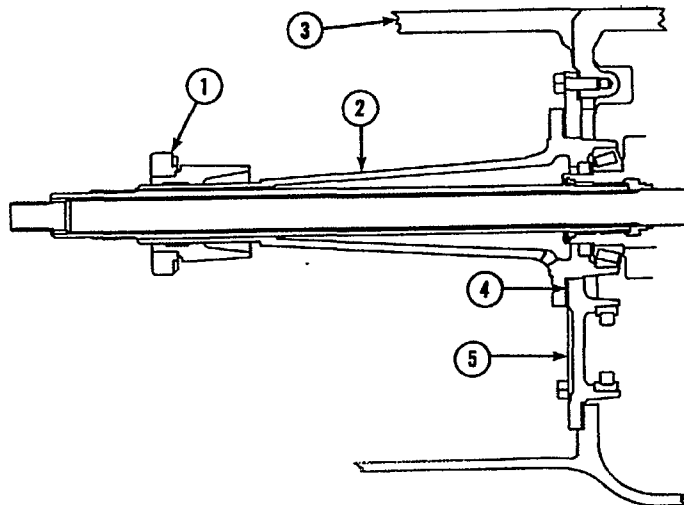

Figure 5
1. When installing the clutch release hub support, install two .012 inch (.30 mm) shims between the support and case. Refer to Figure 5.